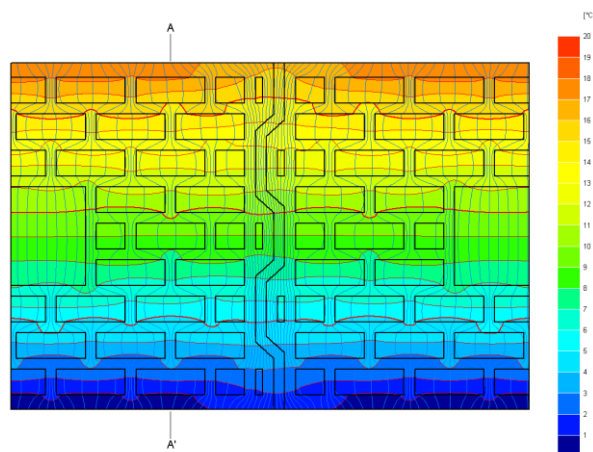

Figure 2. Results obtained by BISCO
Figure 2 shows isotherms and heat flow lines (increment 0.1) obtained with the program BISCO.
- The vertical joint is shifted to the left. This is justified: Figure 2 shows that the axis AA' is almost adiabatic.